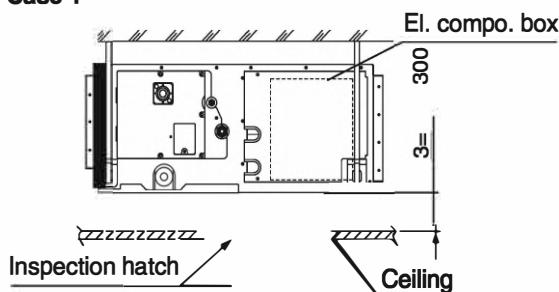

Fig. 2-1
(1) Check the relation of location between the ceiling opening and the indoor unit hanging bolts.
- Inspection hatch 1 and 2 (450 x 450) for the el. compo box and a minimum space of 300 mm at the bottom of the product. (Refer Fig. 2-1)